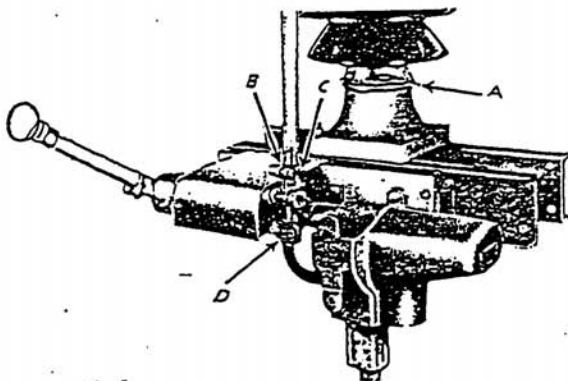
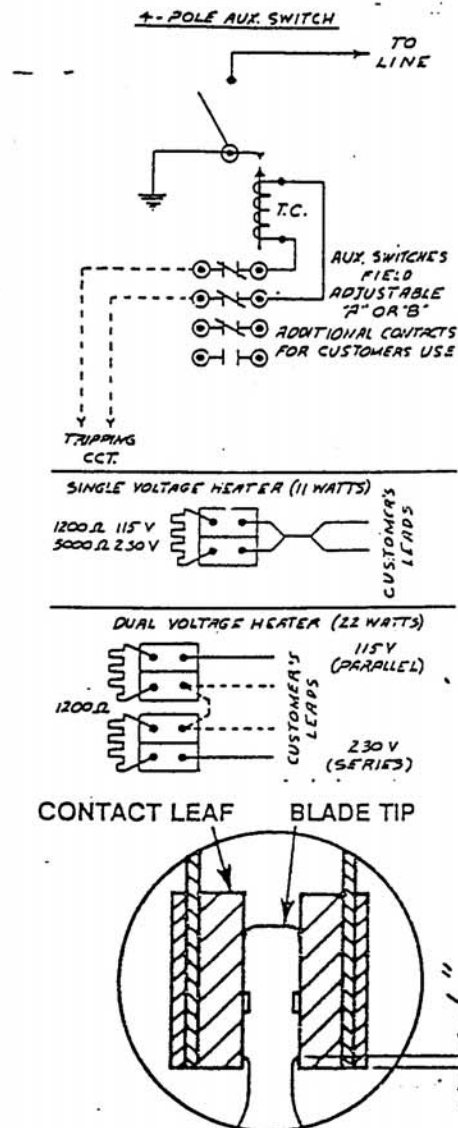

Fig. 1
Fig. 2
1. If 69 kv switches use tilting rings, mount insulators on top of tilting rings, making certain that the tabs ("A", Fig. 1) of the tilting rings are opposite each other. Use tilting rings to plumb insulator stack. For all horizontal upright mounted switch above 69 kv, jackscrews are used. Mount cap and pin insulators on adapter or mount post insulators on adjusting plate as shown on switch assembly drawing. Use jackscrews to plumb insulator stack.
Place blade in socket and close switch. With the blade in the contacts and parallel to the insulator stack, adjust so that bottom contact area of blade tip is $1/16$ " above bottom of contact leaf by raising or lowering the blade as required (see Fig. 2). When the proper distance has been obtained, tighten the clamp bolt ("B", Fig. 1) on the socket. Center-punch blade through tapped hole ("C", Fig. 1) in the socket to mark spot for hole and open switch. Remove blade from socket and drill a $3/8$ " diameter hole through blade wall at center punch. Assemble blade in socket, lining up hole in blade with tapped hole in socket. Install $3/8$ -16 x 1" galvanized bolt and L. W. and tighten. Socket clamping bolt may now be tightened securely. Connect shunt to blade using U-bolt and